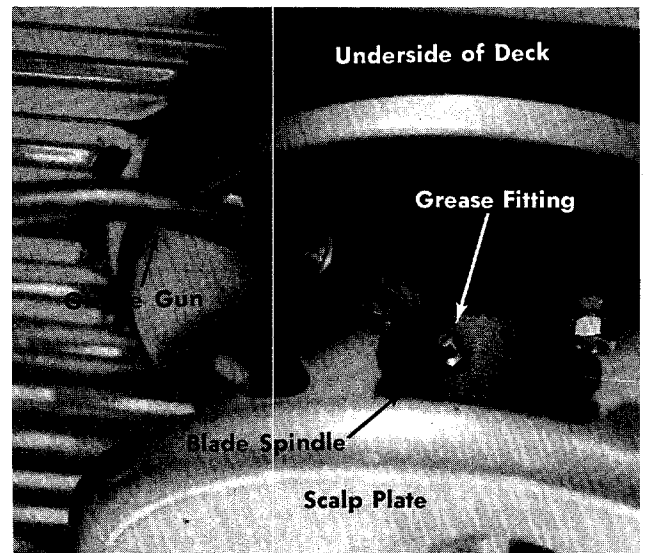

FIGURE 26. INITIAL LUBRICATION OF BLADE SPINDLE ASSEMBLY
1. Blade Spindle Assembly—The blade spindle assembly is equipped with a grease fitting. Use grass discharge chute for access to the fitting located under the deck. Use multi-purpose grease. **Lubricate PRIOR to initial use and every 25 hours thereafter.** See figure 26.